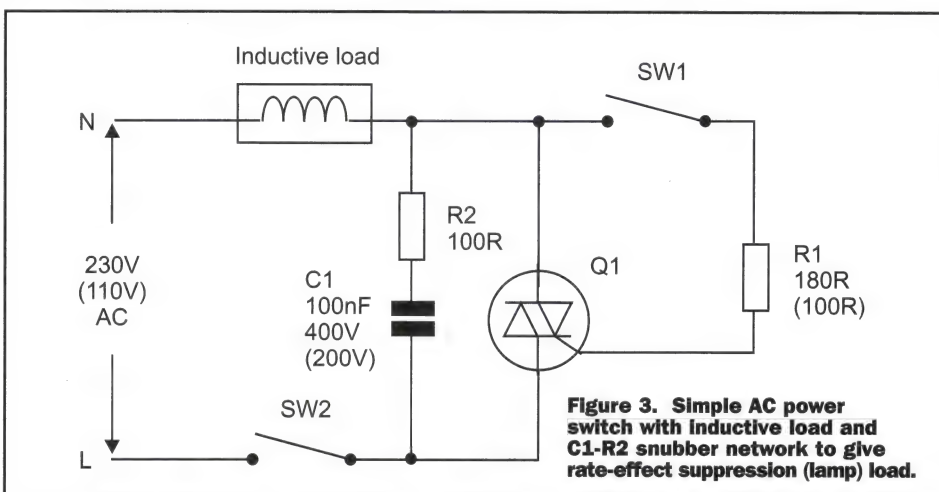

Figure 3. Simple AC power switch with inductive load and C1-R2 snubber network to give rate-effect suppression (lamp) load.
Rate-effect problems can usually be overcome by wiring an R-C 'snubber' network between MT1 and MT2, to limit the voltage rate-of-rise to a safe value, as shown (for example) in the triac power switch circuit of Figure 3, where R2-C1 form the snubber network. Some modern triacs have enhanced dV/dt ratings (typically 750V/(S) and are virtually immune to rate-effect problems; these triacs are known as 'snubberless' types.
The simplest type of triac power switch is that of Figure 2, in which the triac is gated on via R1 when SW1 is closed; only 1V or so is generated across the triac when it is on, so R1 and SW1 consume very little mean power; Figure 3 shows the same circuit fitted with a 'snubber' network. There are many useful variations of these basic circuits. Figure 8, for example, shows a version that can be triggered via an AC-derived DC supply. C1